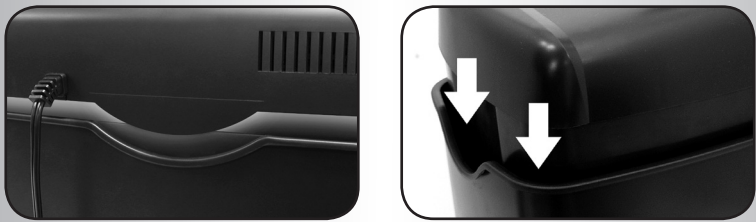

FIGURE 1
1. This model includes a built-in safety interlock mechanism, which requires the shredder to be correctly mounted on to the included wastebasket. Located on the back center of the shredder, next to the power cord, there is a curved flap-like shape that must FIT OVER THE OUTSIDE matching ridge of the wastebasket. (FIGURE 1) THE SHREDDER WILL NOT OPERATE UNLESS IT IS PROPERLY MOUNTED AS PICTURED.